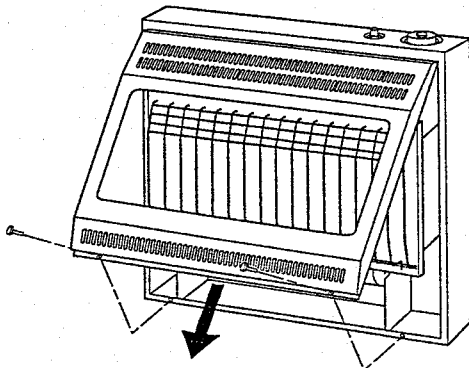

Figure 9 - Removing Front Panel
1. Remove the heater's front panel (see Figure 9, page 9).